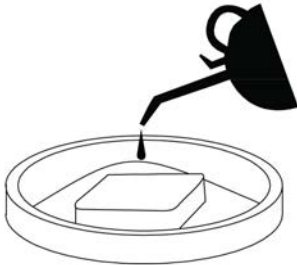

Figure 22
9. Once the air filters are dry, coat the air filters with clean engine oil (see Figure 22 below).